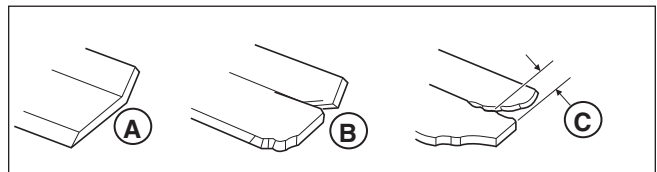

Figure 10. Inspecting the Mower Blade Air Lifts
- 2.) The air lifts are excessively eroded (B & C, Figure 10) and the notch (C) is .25" (6,35 mm) deep or greater.